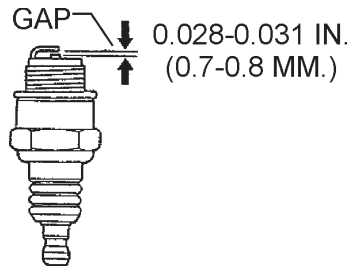

Figure 26. Spark Plug Gap
1. Remove and clean the spark plug (Figure 26).